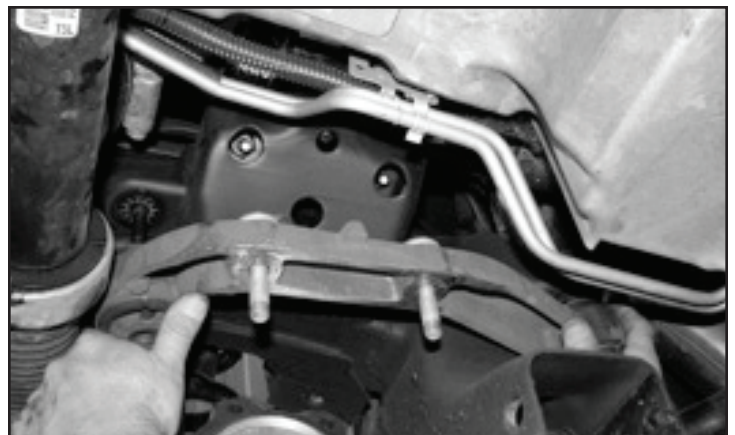

FIGURE 11 - STEP 12
12. Locate the factory passenger side diff mount and remove. **SEE FIGURE 11**